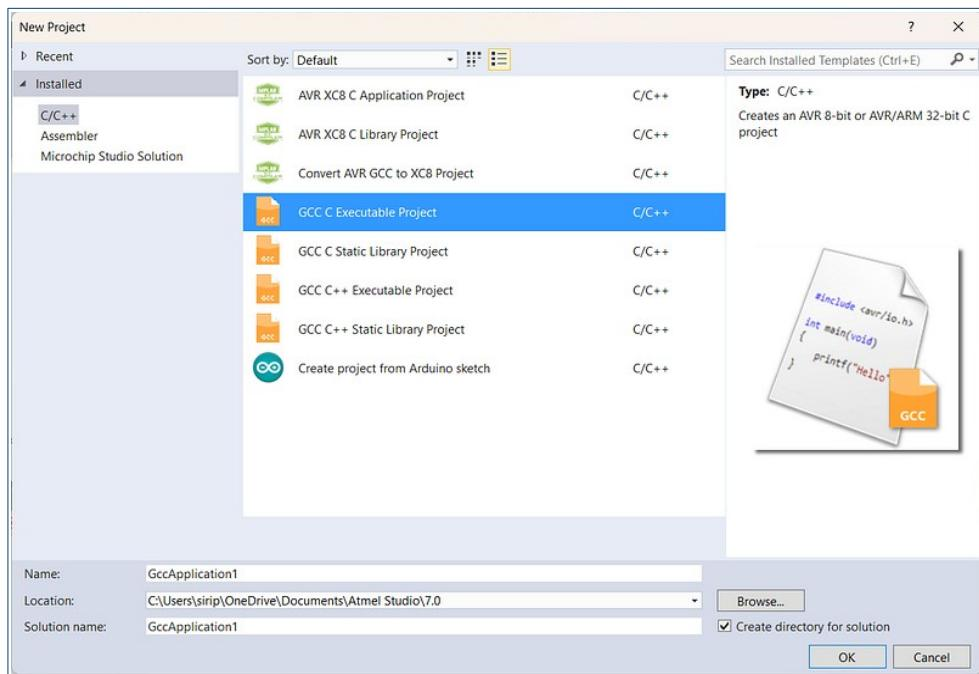

Figure 2: Project type selection in Microchip Studio for AVR
1.1 Select **GCC C Executable Project** (see **Figure 2**), enter a project name, and choose a directory for the project.